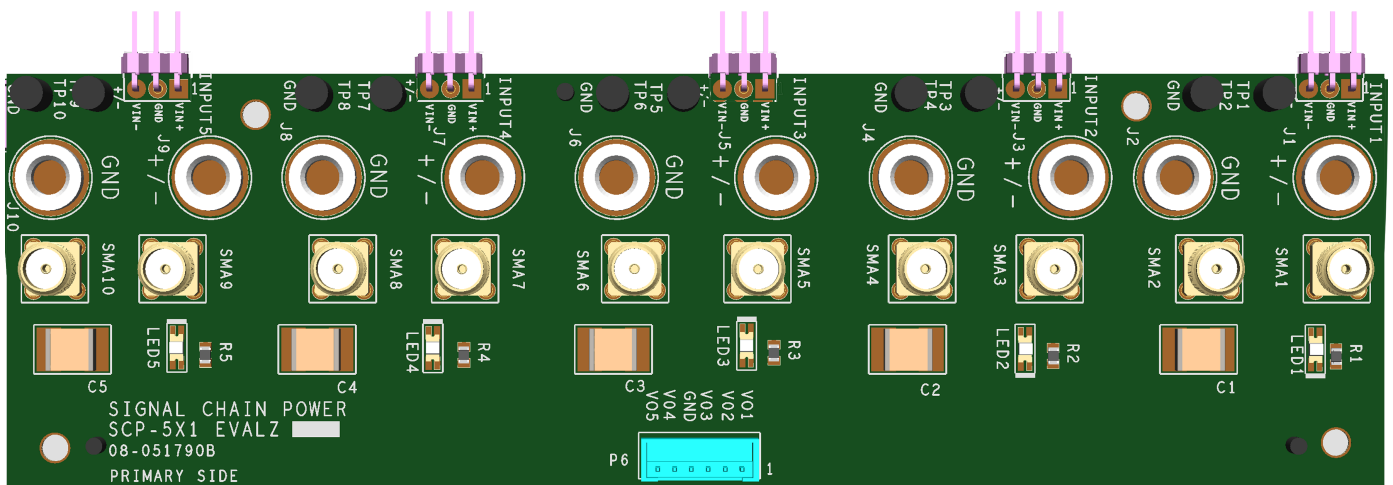

Figure 1. Signal Chain Power 5 × 1 Integration Board
2. Connect the SCP-INPUT-EVALZ and SCP-OUTPUT-EVALZ boards to the SCP board under evaluation (refer to Figure 1) and connect the input board to a voltage source, V_{SOURCE} . Connect the output board to a voltmeter or dynamic load. Slowly raise the input voltage until the SCP-5X1-EVALZ powers up the device under test into regulation and sweep V_{SOURCE} through the desired range of operation.